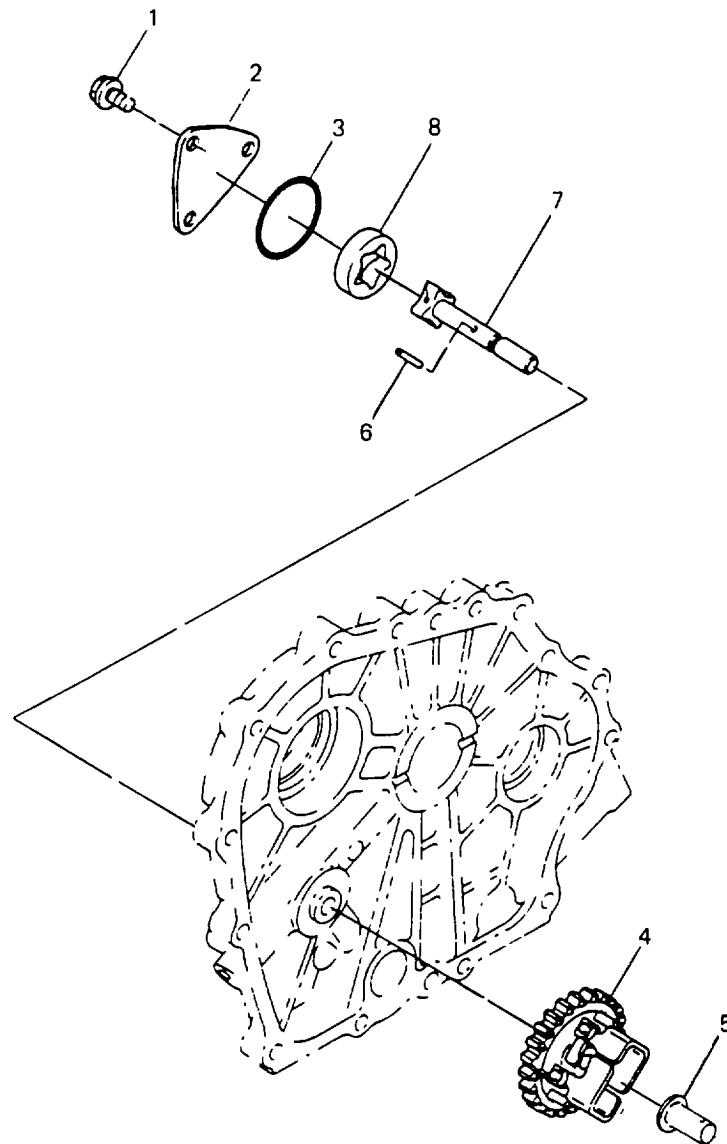

Figure 6-8. Lube Oil Pump Assembly
REMOVAL: Refer to Figure 6-8.
- d. Refer to Figure 6-8. Install new O-ring (3) onto crankcase cover and secure oil pump cover (2) with 3 bolts (1).